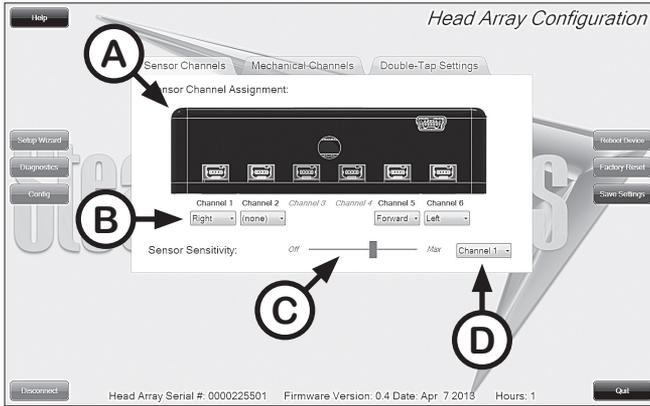

Fig.3.4.2
- A. *Sensor Channels* Tab** - Navigates to the Sensor Channels menu (see Fig.3.4.2 on p17)